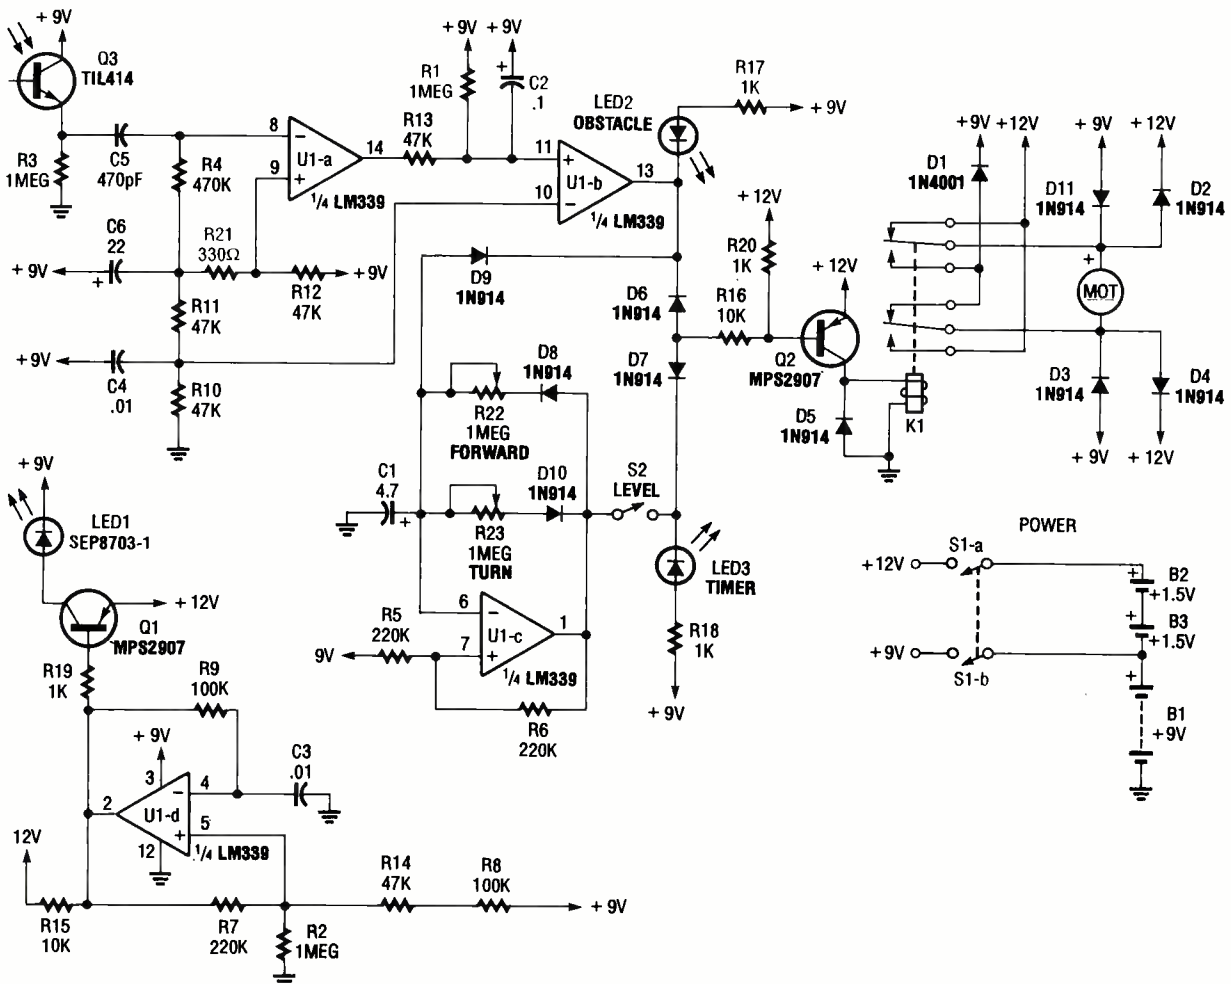

Fig. 9. All eleven of the robot's neurons are emulated by this circuit. Some neurons are based on comparators, while others are implemented with simple diodes.
**Circuitry.** The final step is to compile all of this into circuitry. The actual schematic for the creature is shown in Fig. 9. In terms of actual circuitry, the 11 neurons in our model are implemented in a number of different ways. Some are modelled with voltage comparators, some with diode logic, and some with electro-mechanical devices. Keep this in mind as we describe the electronics for each of the creature’s component behaviors.
The circuitry for the LED oscillator (see the lower-left corner of Fig. 9) corresponds directly to the neural model. Here, the feedback from a comparator’s output to its positive input provides the “hysteresis” needed by our dual-threshold neural model, while the resistor and capacitor on the negative input form the required integrator. The 10k resistor to +12 volts mimics the action of the necessary always-on neuron. This arrangement generates a squarewave that is amplified by another MPS2907 transistor to drive the IR LED. That unit radiates infrared energy (much like a TV remote control) into the